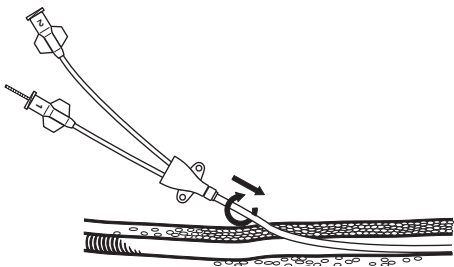

Fig. 1
8. Introduce the central venous catheter over wire guide. While maintaining wire guide position, advance catheter into vessel with a gentle twisting motion. (**Fig. 1**)